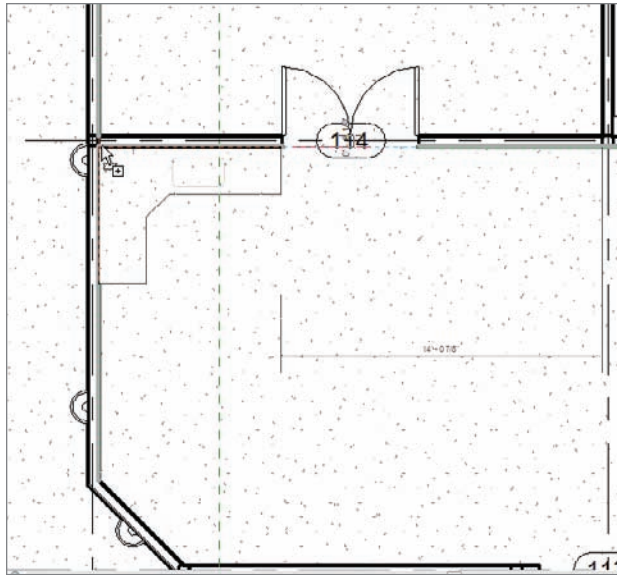

FIGURE 9.56 Adding the countertop
6. Add the countertop, as shown in Figure 9.56.